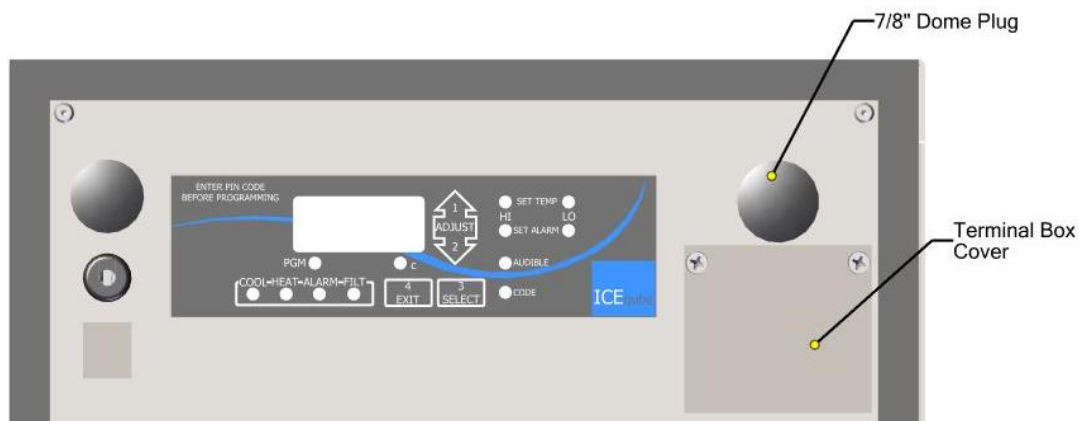

Figure 2: Terminal Cover
3. Remove the (2) terminal box cover screws and remove the cover. (See *Figure 2: Terminal Cover*)
5. Remove Dome Plug and route power cable through the 0.875" (22.23mm) hole. Recommended conductor size is 14AWG. Use an approved strain relief to secure wires. (See *Figure 2: Terminal Cover*)